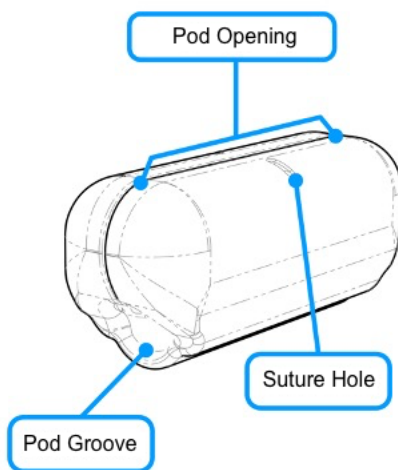

Figure 16 - Pod Suture Hole
8. While minimizing Pod movement, suture the Pod closed through the suture hole in the Pod (see Figure 16) with a non-absorbable 5-0 Prolene suture on a non-cutting needle. Limit the number of throws in the knot to a maximum of four to avoid excessively pulling on the device or nerve.
1. Expose the Implant in the Pod by incising any tissue capsule surrounding it along the Pod opening (see Figure 16 on page 18) with the suture visible.
4. If performing an explantation, cut the Pod in halves by cutting parallel to the groove in the Pod (see Figure 16 on page 18) and then remove the halves.
- If the Pod is damaged, cut the Pod in halves by cutting parallel to the groove in the Pod (see Figure 16 on page 18) and then remove the halves. Place the new Pod and Implant by following steps 3-10 in the **Implantation** section (page 15).